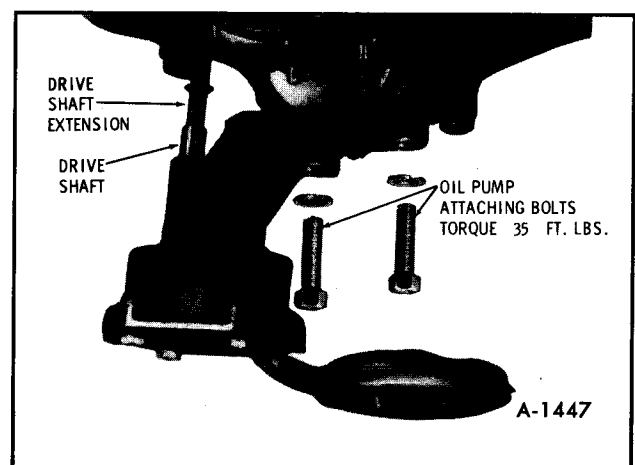

Figure 40—Oil Pump Installation
2. Position pump onto the rear main bearing cap replace rear oil deflector and install attaching bolts. Torque bolts to 35 ft. lbs. See Figure 40.
NOTE: Refer to PISTON INFORMATION Chart. When replacing pistons, the original cylinder size is stamped with a code letter on the block near each cylinder on the cylinder head surface. See Figure 40.